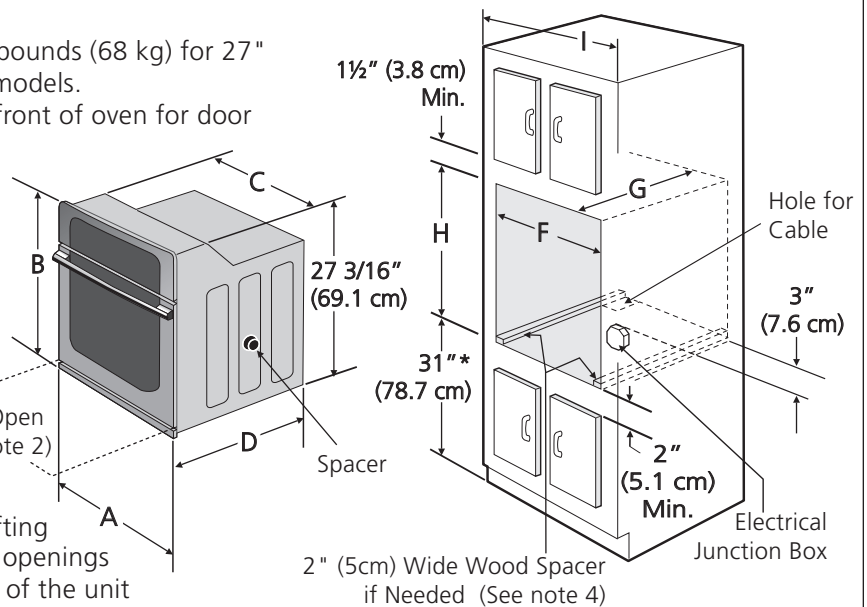

Figure 1
27" AND 30" DOUBLE OVENS (Single Ovens see Figure 1)
Refer to figure 1 or 2 for the dimensions applicable to your appliance, and the space necessary to receive the oven. The oven support surface may be solid plywood or similar material, however the surface must be level from side to side and from front to rear.
Oven height can be adjusted with 2" (5cm) wide wood shims when needed to fit into an existing cabinet cutout opening, when cutout height exceeds **28¹/₈" (71.4cm)** for the single wall oven or **49¹/₂" (125.7cm)** for the double wall oven (see Figure 1 or 2). Place shims of appropriate height beneath the oven side rails.
2. These appliances should be connected to the fused disconnect (or circuit breaker) box through flexible armored or nonmetallic sheathed cable. The flexible armored cable extending from the appliance should be connected directly to the junction box. The junction box should be located as shown in Figure 1 or Figure 2 and with as much slack as possible remaining in the cable between the box and the appliance, so it can be moved if servicing is ever necessary.